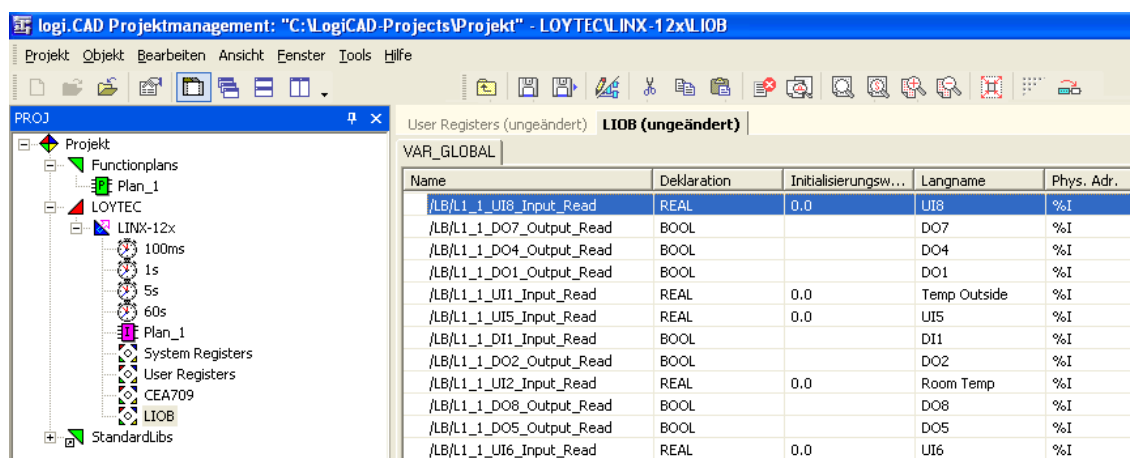

Figure 38: Exposed PLC data points appear in LogiCAD
10. The data points now appear as variables in LogiCAD in a folder under the device folder. The folder is named specific to the technology of the data points, e.g. LIOB for all L-IOB I/Os that are exposed as a PLC variable. An example is shown in Figure 38.